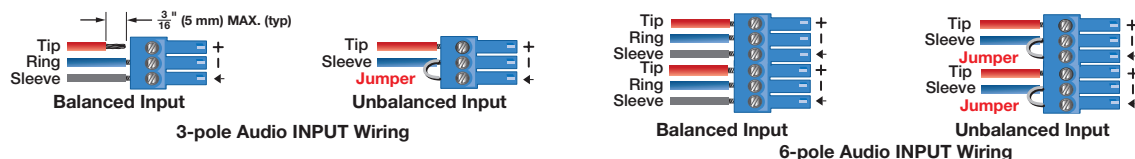

Figure 7. Audio Inputs Captive Screw Connector Wiring
- J Mic/Line inputs 1 through 4** — Connect mono balanced or unbalanced microphone or line level sources to these four 3-pole, 3.5 mm captive screw ports (see figure 7 for wiring).